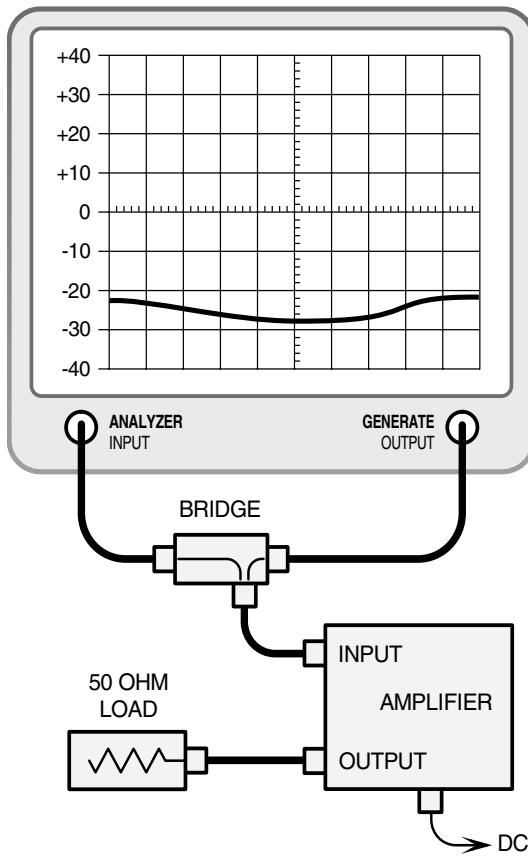

Figure 23: Measuring output return loss.
- 10) Reverse the connections as shown in **Figure 23** and see if the output return loss is -16 dB or more. If it is, skip to step 12.